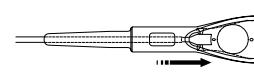

Fig. 14
8. Open the jaws of the forceps and grasp the footplate of the ICL or TICL, so that the ICL or TICL positioning mark is aligned with the jaws. (Fig. 14)